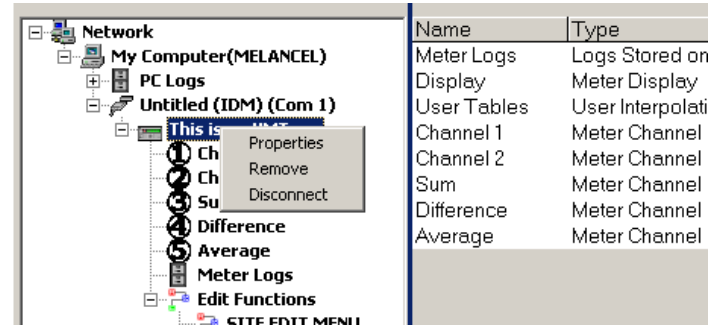

Figure 5: Properties option in the new meter browser
2. Right-click on the highlighted XGF868i and click on the *properties* option, as shown in *Figure 5* below.